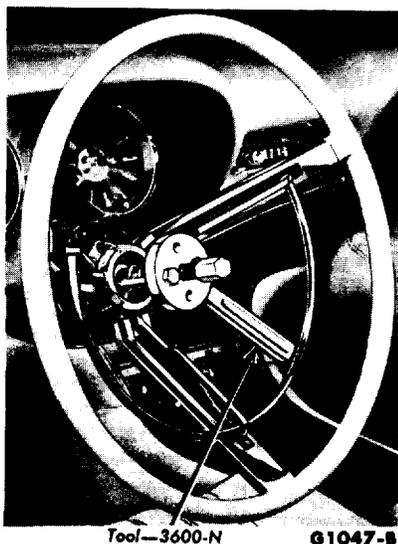

FIG. 29—Steering Wheel Removal
2. Remove the steering wheel nut, and then pull the steering wheel and horn ring (Fig. 29).